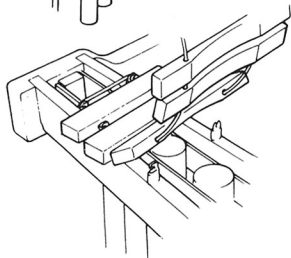

Fig 8
- 5 Place the natural tone bars on the center of the rails and set each bar in position. Thread the suspension cord through each suspension post starting at the treble end. (Fig 8) Tighten the suspension cord and hook the spring. (Fig 9) Then set on the accidental bars. Wipe the top and sides of the instrument with a dry cloth. Check to see that all the nuts and bolts are tightened to prevent undesirable noise.